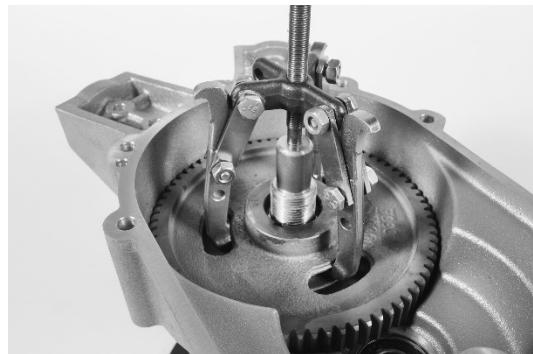

FIGURE 30
6. Using gear puller, remove large spur gear from driveshaft. FIGURE 30